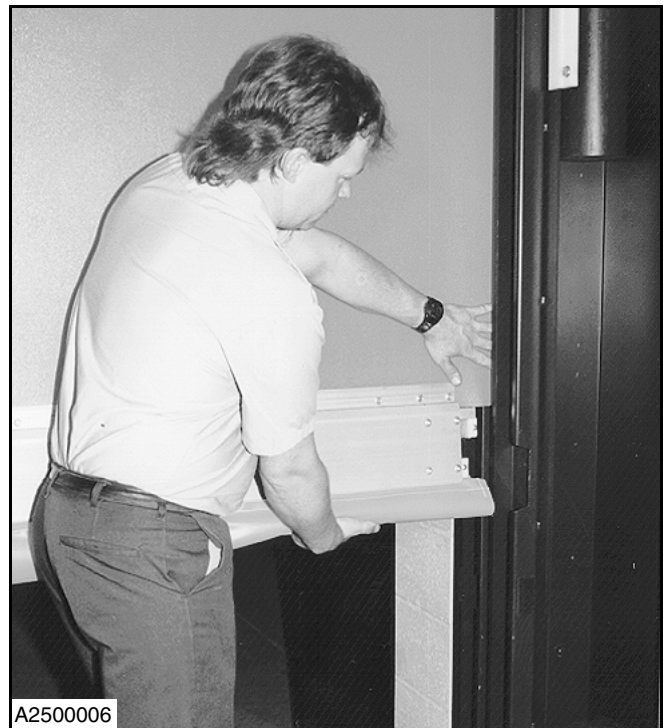

Figure 5
3. Slide the door panel fabric back between the seals in the side column. (See Figure 5.)